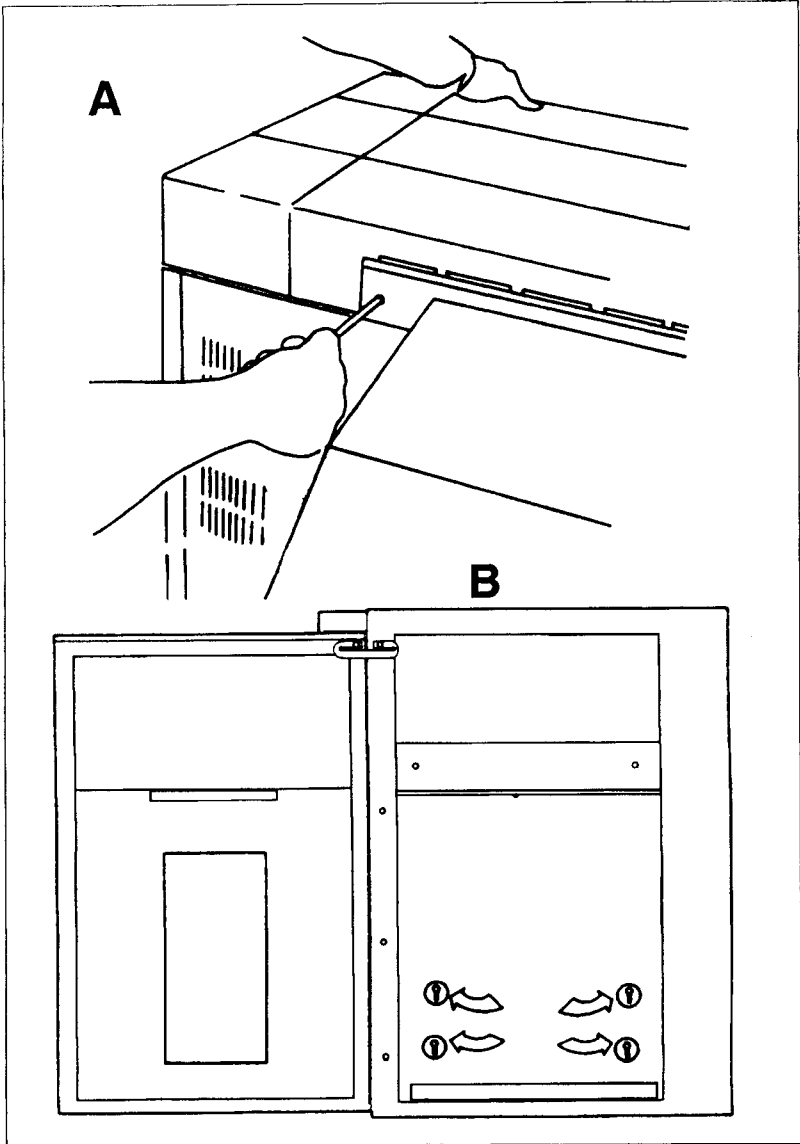

Figure 2-12. Attaching the PPS to the Printer
- i. Secure the PPS to the back of the printer with two 1/4 turn screws; one on the mounting tab on the upper left hand corner of the PPS, and one behind the access panel (Figure 2-12, A). Open the PPS door and fasten the PPS to the printer frame with the four flange head screws (Figure 2-12, B).